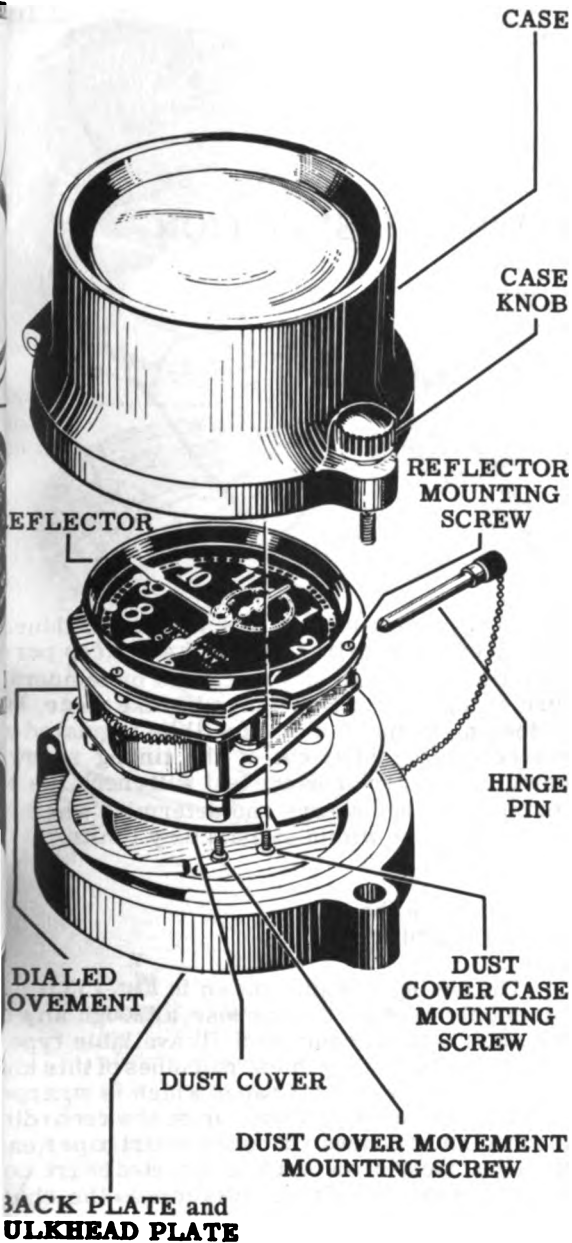
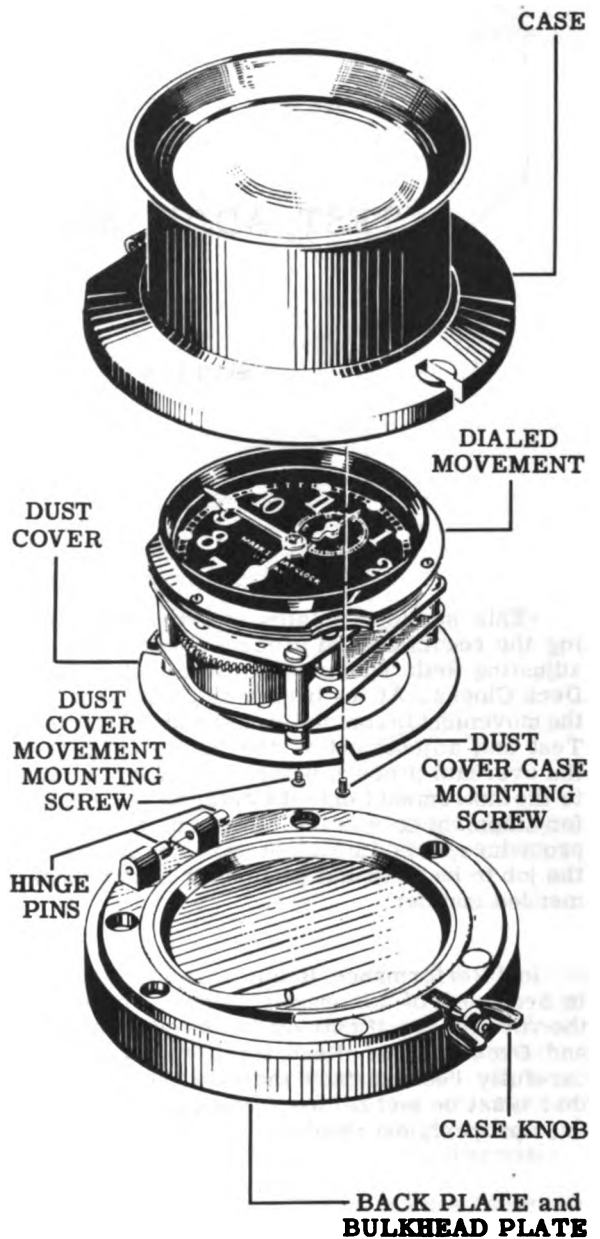

Figure 131
Figure 132
4. Refer to Fig. 131 (phenolic case) and Fig. 132 (metal case) for the relative positions of all parts involved in Operations 1 through 4. Turn the dialed movement over in the work ring and position it so that no weight is placed on the hands. Fasten on the dust cover with the four dust cover movement mounting screws.